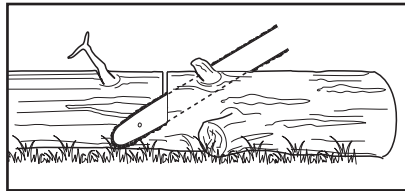

Fig. 29
1. Follow the simple directions for easy cutting. When the log is supported along its entire length (Fig. 29), it is cut from the top (overbuck).